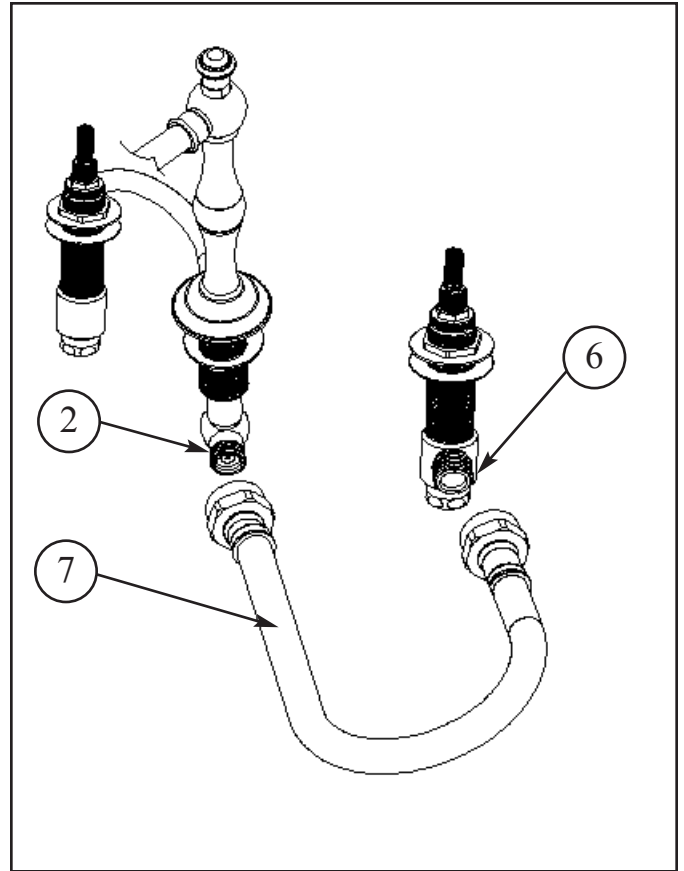

Figure 2
- Connect a FLEX HOSE (7) to side outlet of each VALVE BODY (6). Attach the other end of FLEX HOSE (7) to either side of DIVERTER TEE (2). Hand tighten each connection and secure with a wrench, (1/4 turn). See Figure 2.